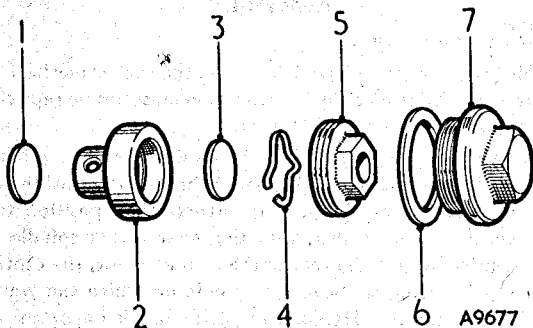

Fig. 9. The valve assembly L and HP dual pumps
14. Assemble the brass valve disc (3) (Fig. 9) to the outlet valve cage (2), making sure that the smooth face of the disc faces the valve seat, retain it in position with the circlip (4), which must be located in the groove in the valve cage. The valve should rattle freely when the valve cage is shaken.
15. Drop the other valve disc (1) (Fig. 9), smooth face downwards, onto the inlet valve seat in the body of the pump, drop the valve cage (2) in position, then screw in the valve plug (5) and tighten with a $\frac{3}{8}$ -in. Whitworth ring or box spanner. Fit the valve plug cap (7) and washer (6). Fit the inlet and outlet unions.